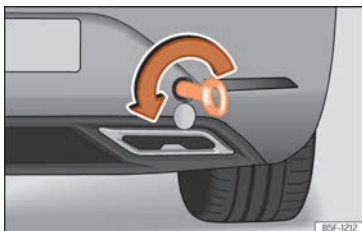

Fig. 49 On the right side of the rear bumper: towline anchorage in position.
- Screw the towing eye in the housing by turning it as far as it will go **anticlockwise** » **Fig. 49** » **!**. Use a suitable object that can completely and securely tighten the towing eye in its housing.